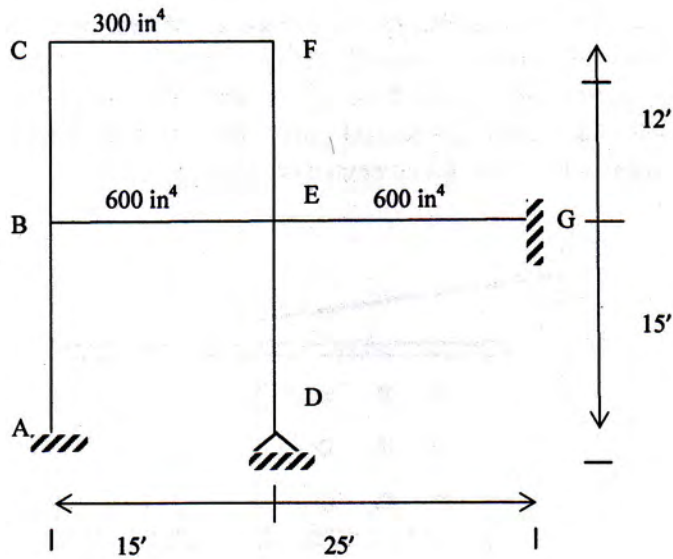

Figure 3
3. (a) Determine the effective length coefficients for all the columns (AB, BC, DE, and EF) of the frame shown in figure 3. Moment of inertia of all columns are 200 in^4 and moment of inertia of the beams are shown in the figure. Alignment chart is given with the question. (10)